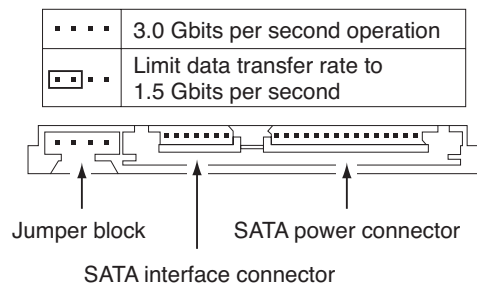

Figure 2. Serial ATA connectors
- Install a jumper as shown in Figure 2 below to limit the data transfer rate to 1.5 Gbits per second (and leave the drive connected to the SATA-equipped motherboard or host adapter that doesn’t support autonegotiation) or
- Install a SATA host adapter that supports autonegotiation, leave the drive jumper block set to “Normal operation” (see Figure 2 below), and connect the drive to that adapter. This option has the benefit of not limiting the drive to a 1.5 Gbits/sec transfer rate.